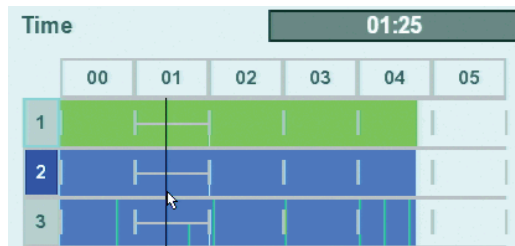

Figure 17. Selecting Playback Time and Channels
4. Click the Time settings box, and then right-click the box to enter a time setting (refer to Figure 17). You can also click and drag the time line to enter a time.